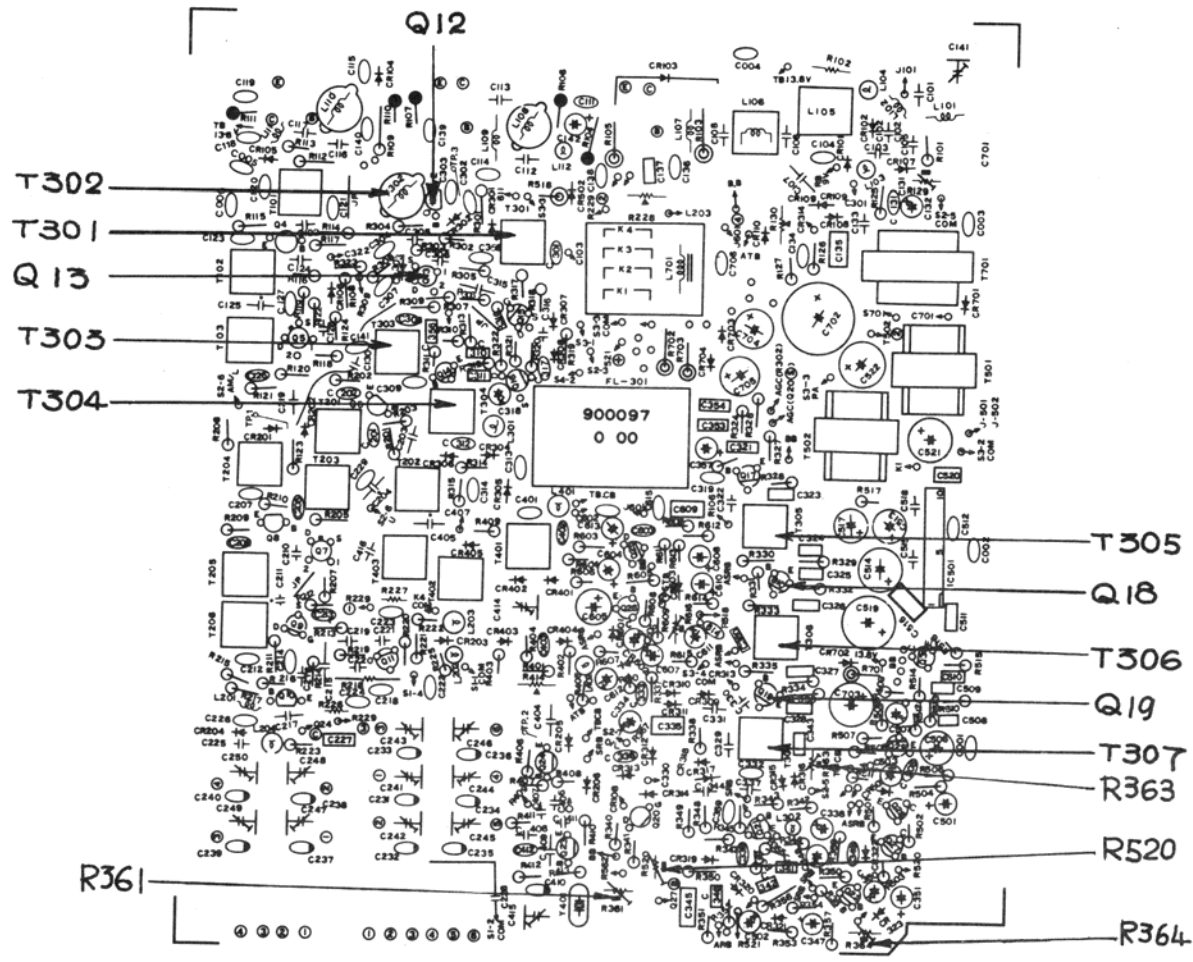

Figure 4-4 Adjustment Location for Receiver Alignment
4.5.1 AM Receiver Alignment (Figure 4-4)